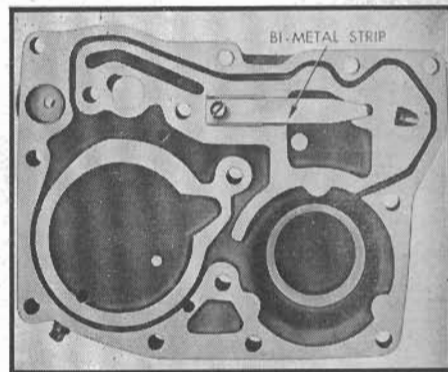

Fig. 34 Lubrication thermostatic valve. 1950-54
- Remove bi-metal strip retaining screw, strip and retainer from cover, Fig. 34.